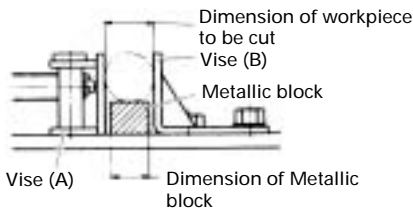

Fig. 8
4. How to use metallic block (Fig. 8)